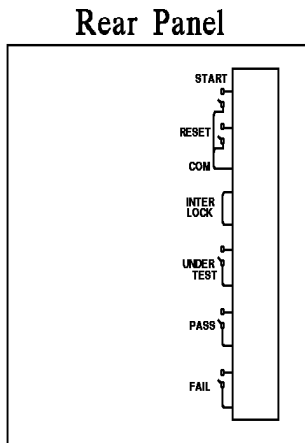

Figure 3-4 Pin assignment printed on the rear panel surface
5. The pin assignment of REMOTE CONTROL is shown as Figure 3-4 below. It should be memorized when using external control.